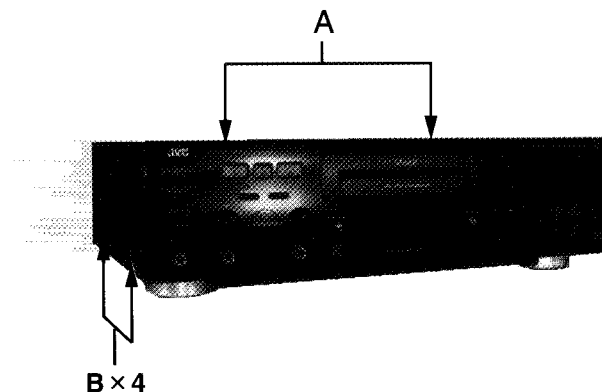

Fig. 1
- (2) **Life of the laser diode (Fig.1)**
(Fig.1)